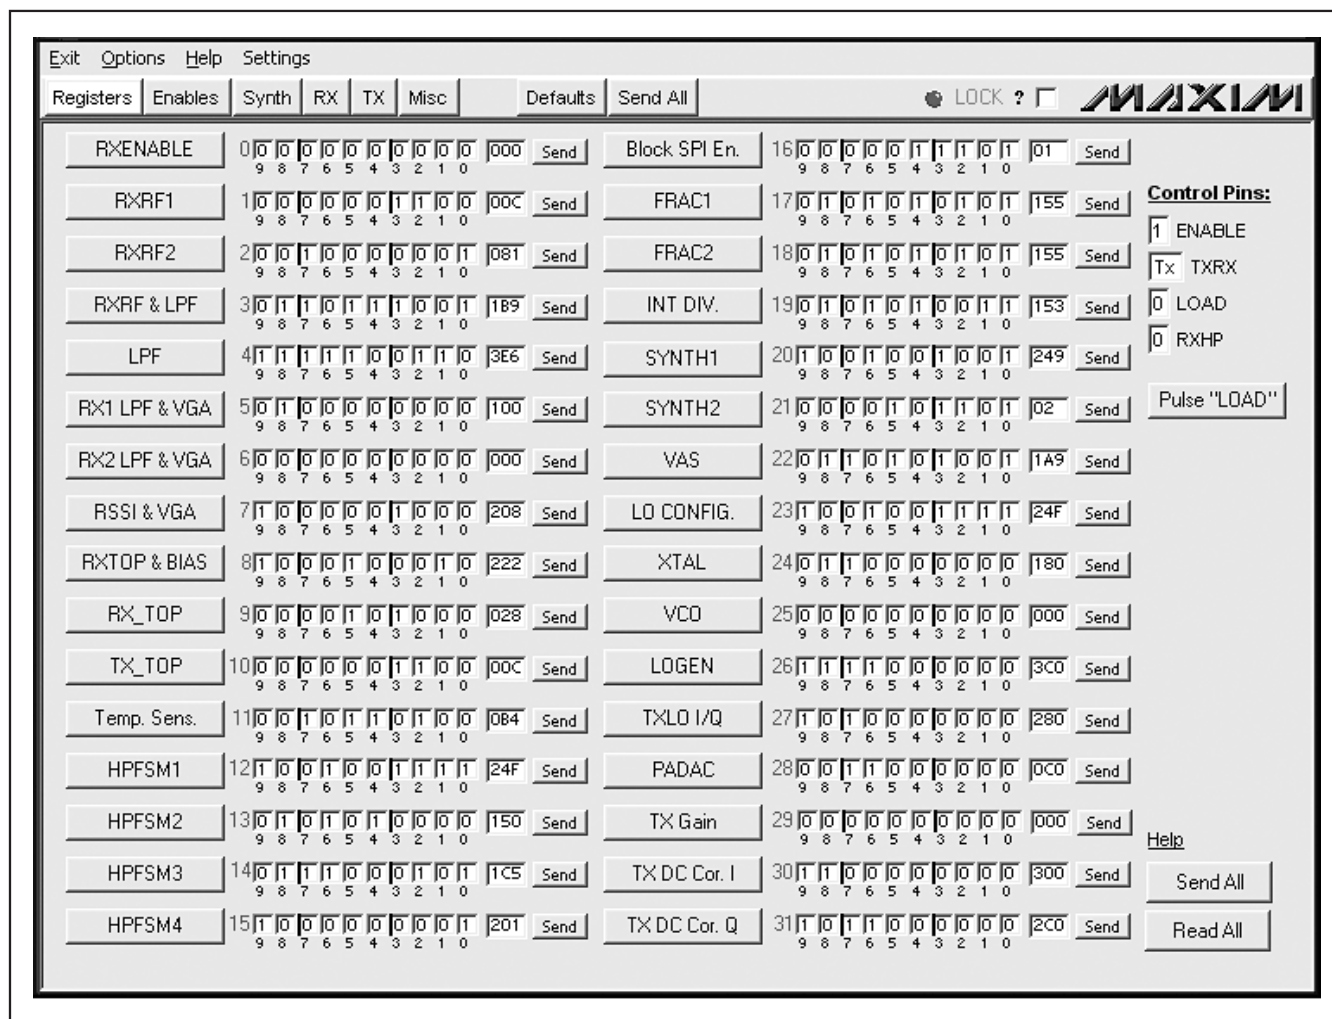

Figure 2. Transmit Mode Register Setting
- 4) In the register panel of the software, enter the recommended register setting shown in Figure 2.